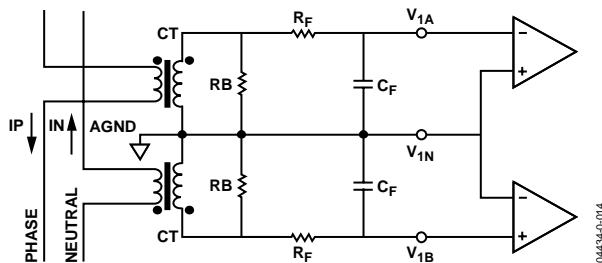

Figure 11. Typical Connection for Channel 1
Figure 11 shows a typical connection diagram for Channel V1. The analog inputs are being used to monitor both the phase and neutral currents. Because of the large potential difference between the phase and neutral, two current transformers (CTs) must be used to provide the isolation. Note that both CTs are referenced to AGND (analog ground); the common-mode voltage is, therefore, 0 V. The CT turns ratio and burden resistor (RB) are selected to give a peak differential voltage of ± 660 mV.